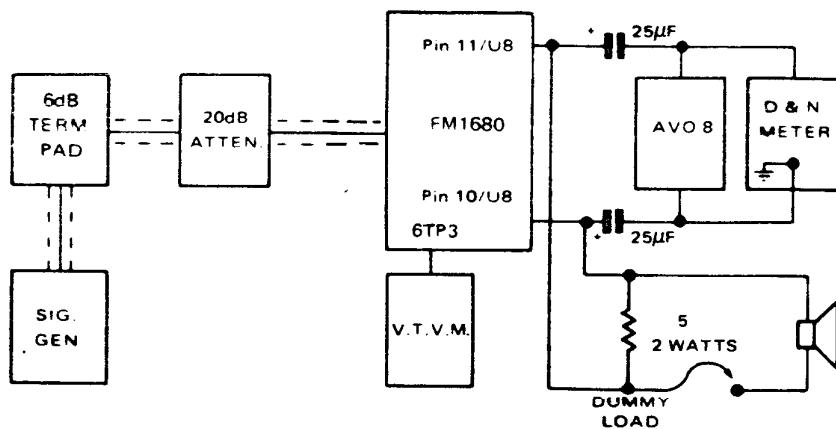

Figure 3
1. Set up the equipment as shown in Figure 3.
4. Adjust trimmers 4C1, 4C3, 4C6, 4C10 and 4L9 for maximum S/N ratio while gradually reducing the output of the signal generator until a S/N ratio of 32 dB (N) or 40 dB (NW) is obtained with an input of $1\ \mu\text{V}$.
7. Tune 4C3 for maximum S/N ratio while decreasing the output of the signal generator to maintain a S/N ratio of 32 dB (N) or 40 dB (NW).
10. Re-tune 4C6, 4C10 while decreasing the output of the signal generator until a S/N ratio of 32 dB (N) or 40 dB (NW) is obtained.